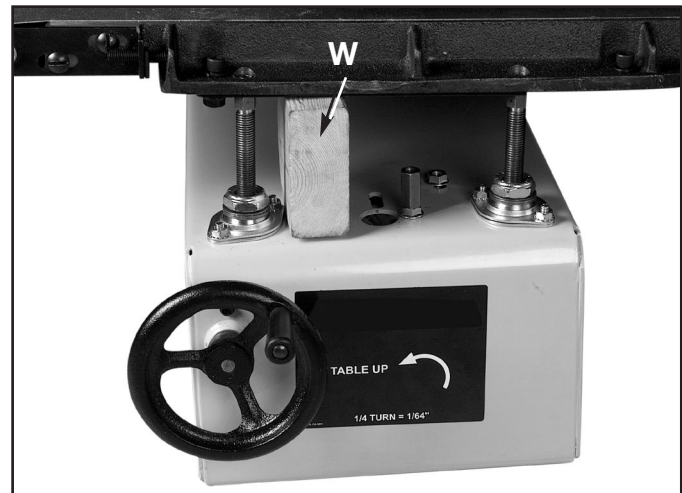
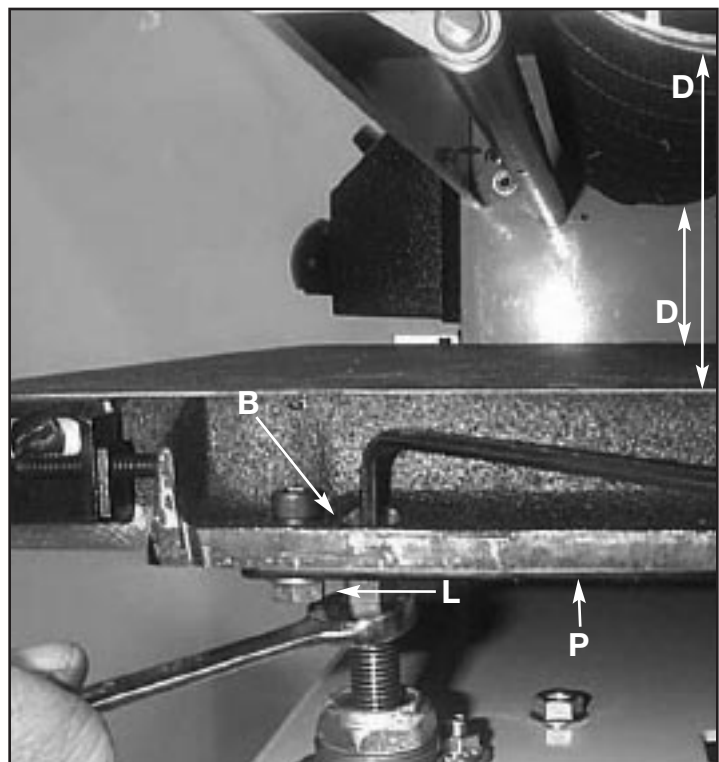
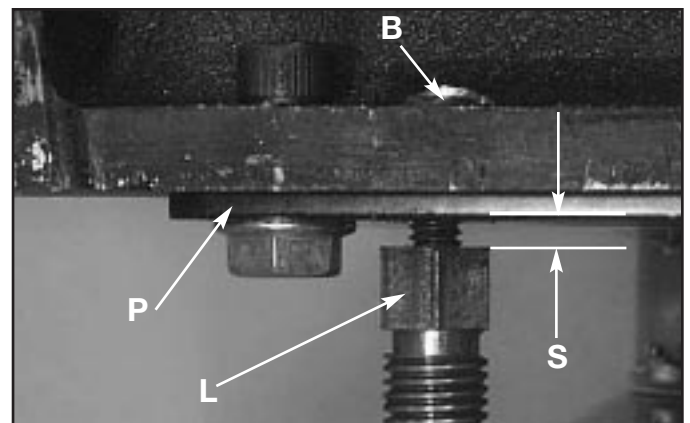
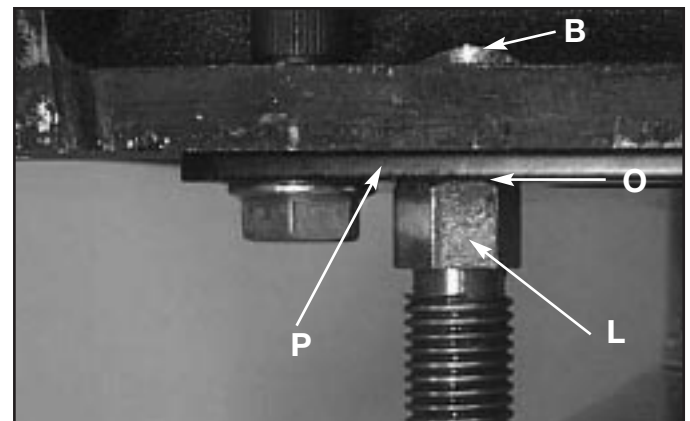

Fig. 37
Fig. 38
Fig. 39
Fig. 40
1. The table support plate must be mounted in a flat plane and parallel (D) Fig. 38 to the drum. Check this with the table mounted to the support plate. Use a 3/16" hex wrench and ½" open end wrench to loosen the four hex screws that attach the support plate to the elevating screws. Place a block of wood (W) Fig. 37, metal, etc. approx. ¾" wide x 2" to 3" tall, under the table support plate, on the unit base next to one of the elevation screws. Turn the elevating screw up or down until the support plate barely clears the block. **REPEAT** the clearance check at each of the other three elevation screws. They should be within 1/64" of each other [See (O) Fig. 40].
3. With a ½" wrench and a 3/16" hex wrench, loosen the front right socket head screw (B) Fig. 38 four full turns[See (S) Fig. 39]. Turn the elevating screw clockwise until it no longer touches the plate (P) Fig. 39. Then turn the same screw counterclockwise until it just touches the support plate without raising it (O) Fig. 40. Hold the elevating screw(L) Fig. 38 with the ½" wrench to keep it